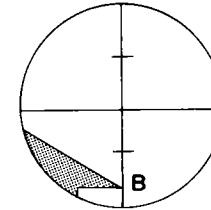

Figure 18
- Slowly raise the telescope, using the telescope tangent screw, until the target is located at Point B (see Figure 18).